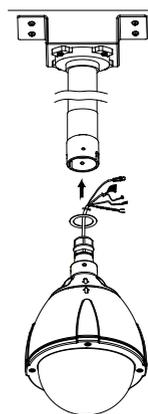

Figure 4
- (7) Thread the cabling of the main unit through the short aluminum tube and push the cables out from the bottom (Figure 4, 5).